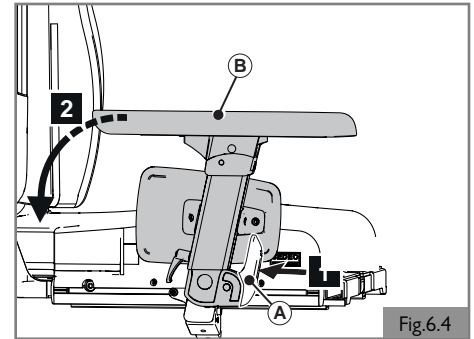
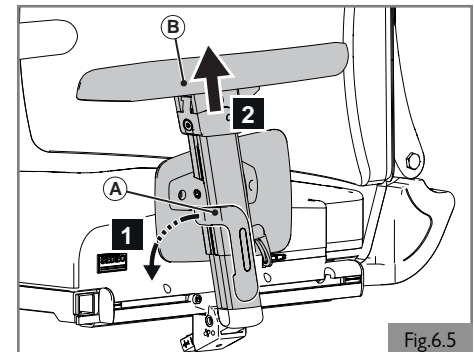
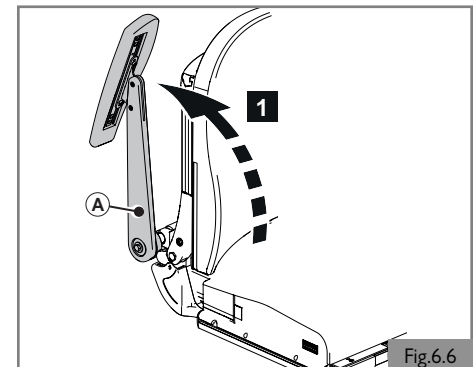

Fig.6.4
Fig.6.5
Fig.6.6
**Flip back armrest (Fig. 6.4)**
1. Press (A).
2. Fold (B) to the rear.
**Single post removable armrest (Fig. 6.5)**
1. Tip (A) downwards.
2. Remove (B).
**Reclining flip back armrest (Fig. 6.6)**
1. Flip (A) to the rear.